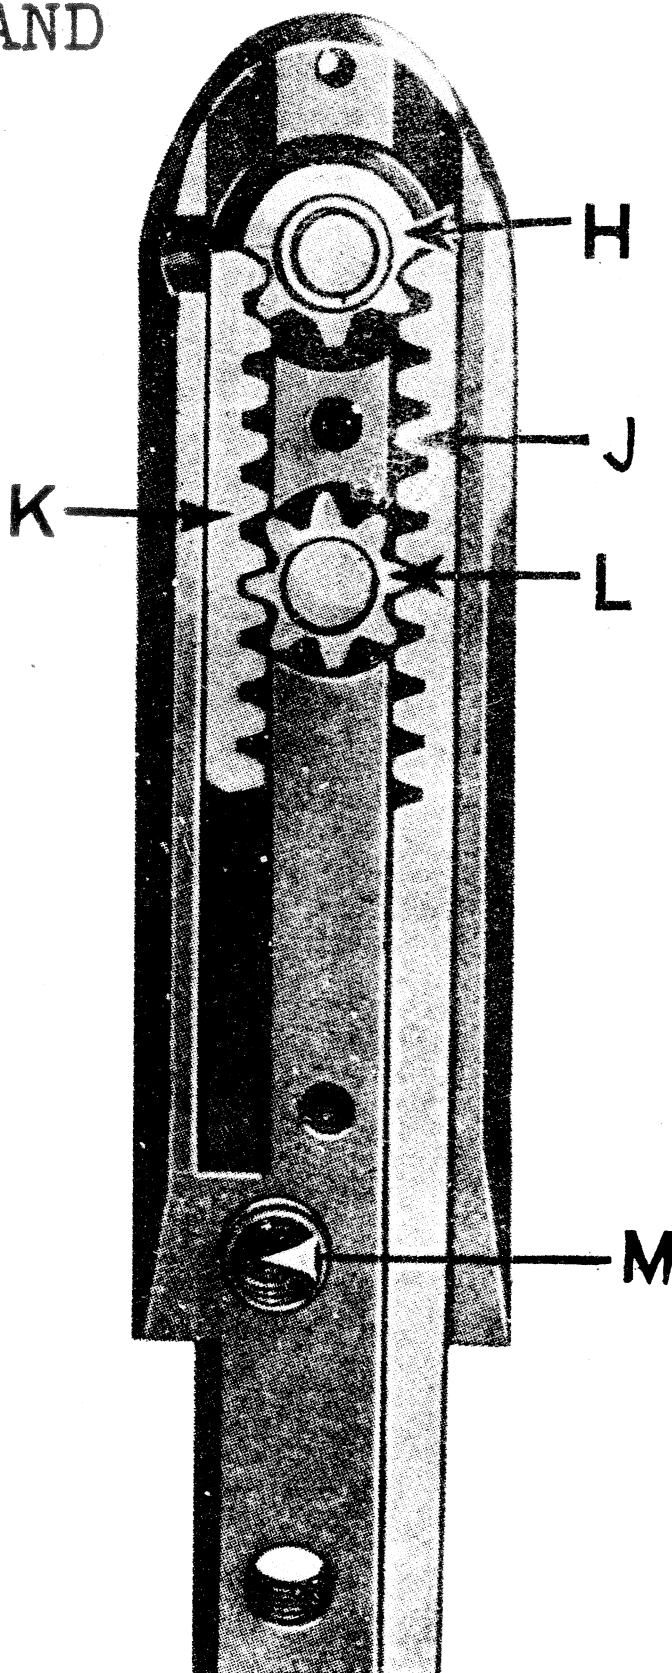

Fig. 20.
Remove the machine head from the treadle stand or power bench by taking out the four screws. The machine head should now be tipped up and supported with the horn in a vertical position, the underside facing the adjuster. Parts can be examined or removed from the rack box by taking out the two screws (F) and removing the cover plate. The following parts are then exposed: long rack (J), short rack (K), intermediate pinion (L), shuttle driving pinion (H), needle plate locating pin and spring (M), all of which can be removed without disconnecting the rack box from the machine. To take out the shuttle carrier, remove the small set screw in the shuttle carrier pinion by inserting a small screw driver through the groove (G) at the side of the rack box. The shuttle carrier can then be pressed through the pinion. To remove the long rack, insert a screw driver through the hole (D, Fig. 21) and take out the screw. Before proceeding to withdraw the rack, remove the pinion (L), then grip the rack and draw it in a straight-away manner towards the pulley end of the machine. The short rack (K) and shuttle driving pinion (H) can be removed without difficulty. When replacing any one or re-assembling the whole of these parts, care must be taken to see that the gears and racks are correctly enmeshed, as shown in the illustration (Fig. 20).